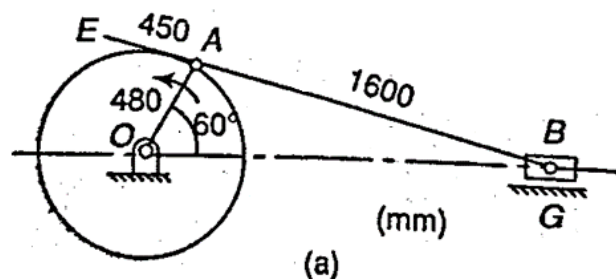

Fig. 3a
b) For the configuration of a slider-crank mechanism as shown in Figure 3a calculate the 12